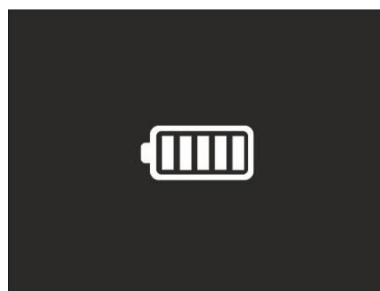

Fig. 56: Indication of complete recharge of the battery
3. When the symbol “” appears steady on the display, the charging process is complete (see Fig. 56).